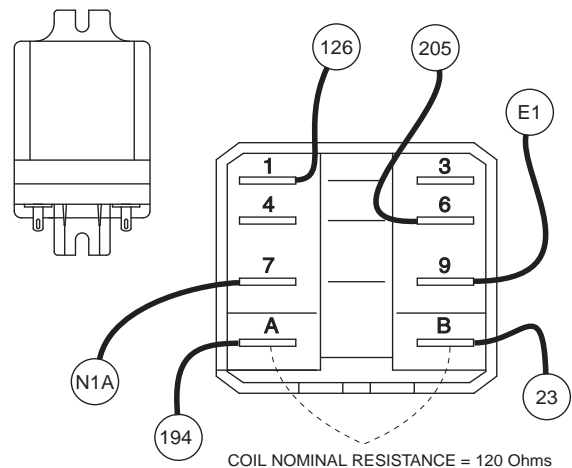

Figure 3. Transfer Relay Test Points
Refer to Figure 3.
1. See Figure 3. Disconnect all wires from the transfer relay, to prevent interaction.